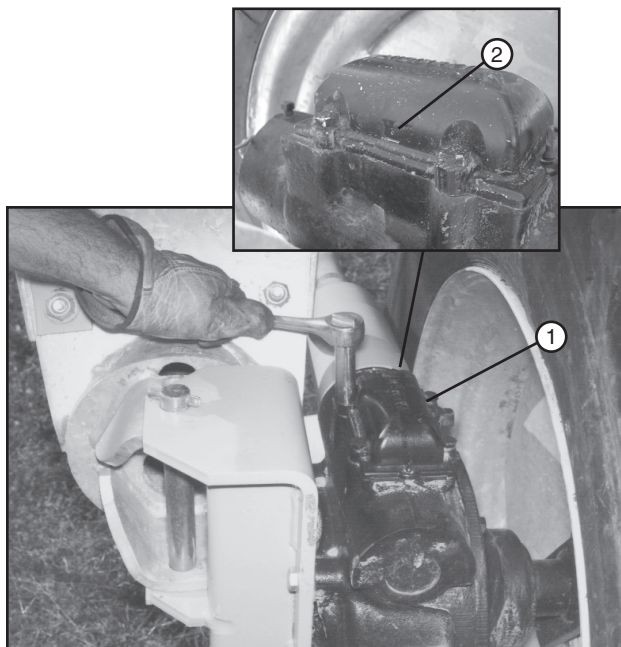

Figure 68-2 1. Expansion Chamber Cap
3. Clean all of the dirt away from the expansion chamber cap and remove the expansion chamber cap. Do not allow dirt to fall into the gearbox when removing the cap. See figure 68-2.